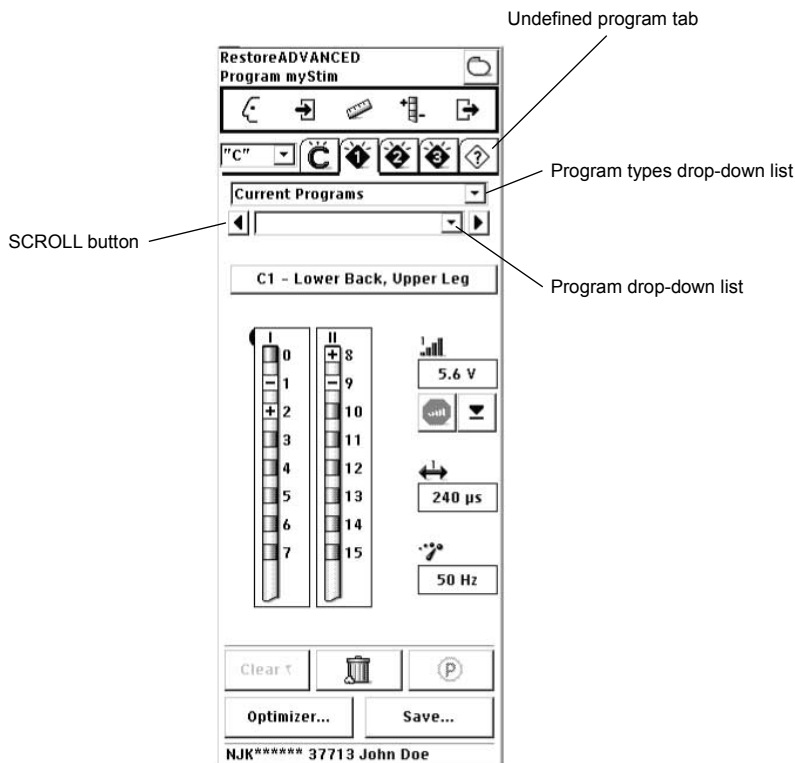

Figure 33. Using stored programs.
3. To add a new program, select an undefined program tab in the group (Figure 33). To modify a program, select a numbered program tab in the group.
4. Select one of the program types (refer to Table 6) from the first drop-down list on the PROGRAM mySTIM screen (Figure 33).
5. From the second drop-down list on the screen, select a program (Figure 33). The SCROLL RIGHT/ SCROLL LEFT buttons provide an alternative method to view and select a program.